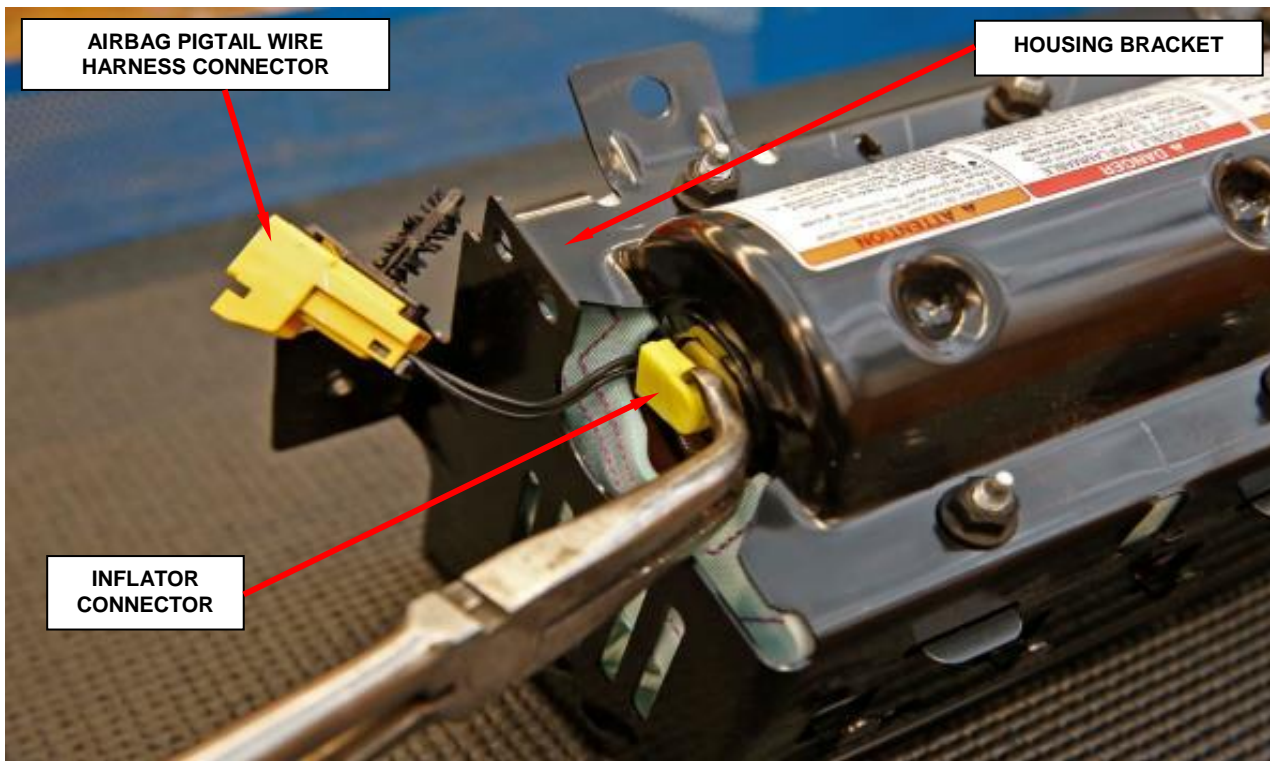

Figure 19 – Wire Harness Connectors
- c. Disconnect the airbag pigtail wire harness connector from the housing bracket and the inflator connector from the inflator using pliers and discard the wire harness jumper (Figure 19).